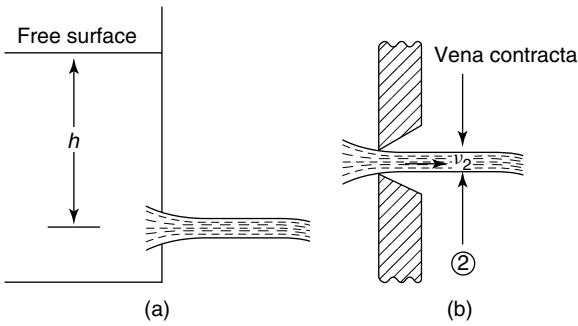

Figure 22.13
Consider the flow of a liquid through a small orifice, as shown in Figures 22.13(a) and (b), where it can be seen that the vena contracta (VC) lies just to the right of the orifice. The cross-sectional area of the fluid is the smallest here and its decrease in area from the orifice is measured by the coefficient of contraction (C_c).
3. If in Figure 22.13, $h = 6$ m, $C_c = 0.8$, $C_v = 0.7$, determine the values of C_d and v_2 . [$C_d = 0.56$, $v_2 = 6.08$ m/s]
4. If in Figure 22.13, $h = 10$ m, $C_c = 0.75$, $C_v = 0.65$, and the cross-sectional area is 1.5×10^{-3} m², determine the discharge and the velocity v_2 . [$C_d = 0.488$, 9.10 m/s]